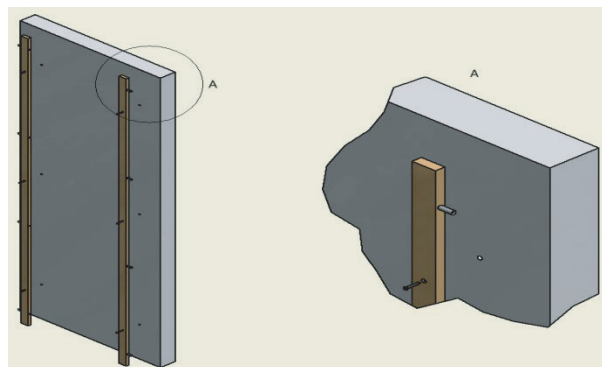

Fig. 3
1. **Fix the rear structure to the wall; fixing is done with screws and plugs, supplied. Make sure that the rear structure is installed "level", taking care to compensate for any problems on the walls. (Figure 3)**